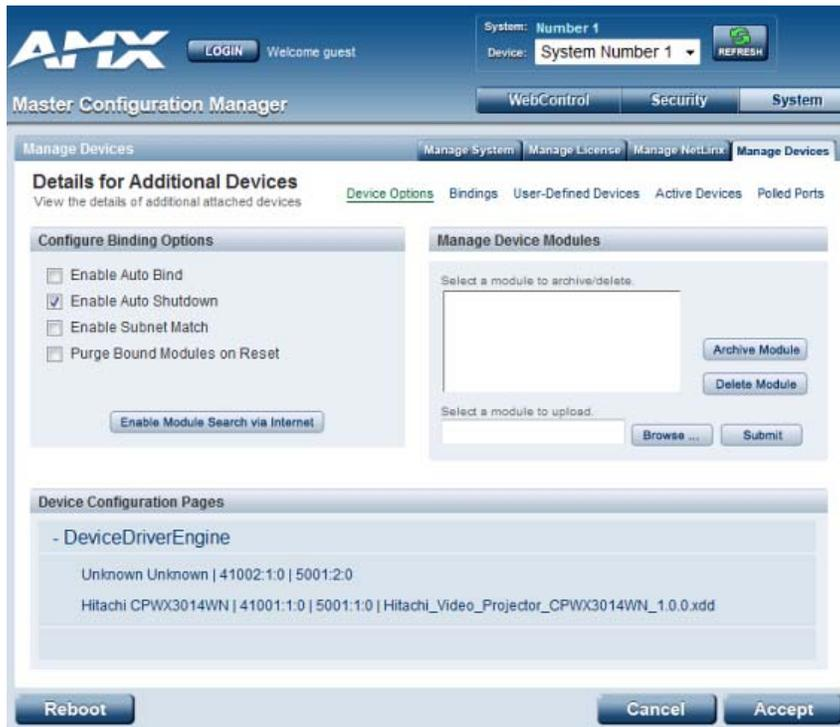

FIG. 106 WebConsole - System Page/Manage Devices tab
4. Open the Master's built-in WebConsole to the **System Page/Manage Devices** tab (FIG. 106):